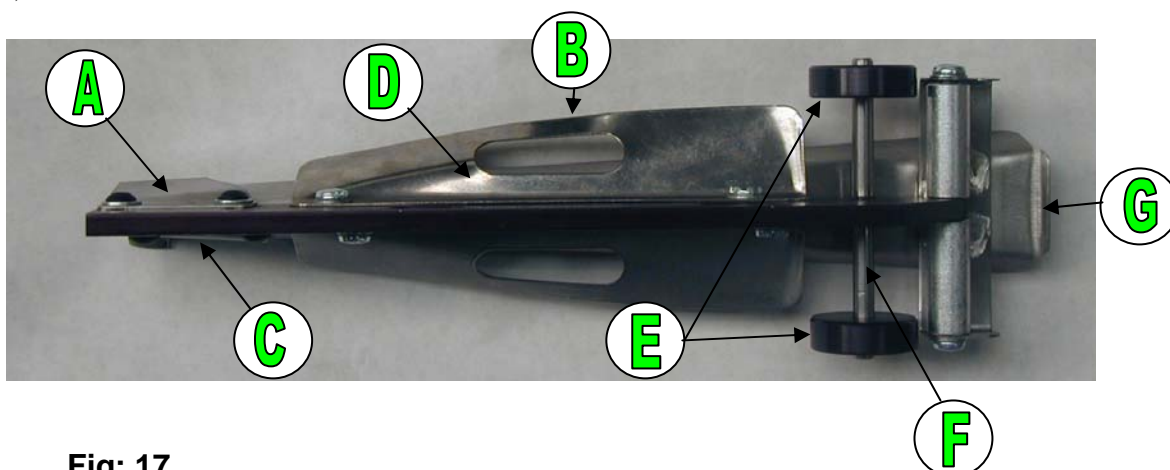

Fig: 17
The binder must be adjusted for the width of the crepe trimming. It is set by moving plate A, which is screwed to the straight face (B), and which can be moved upwards or downwards. See figure 17.
The paper guide must be adjusted so that at the end of the binder, it pushes slightly against the bag, while the bag must be located in the middle of the central guide (G), see figure 17.